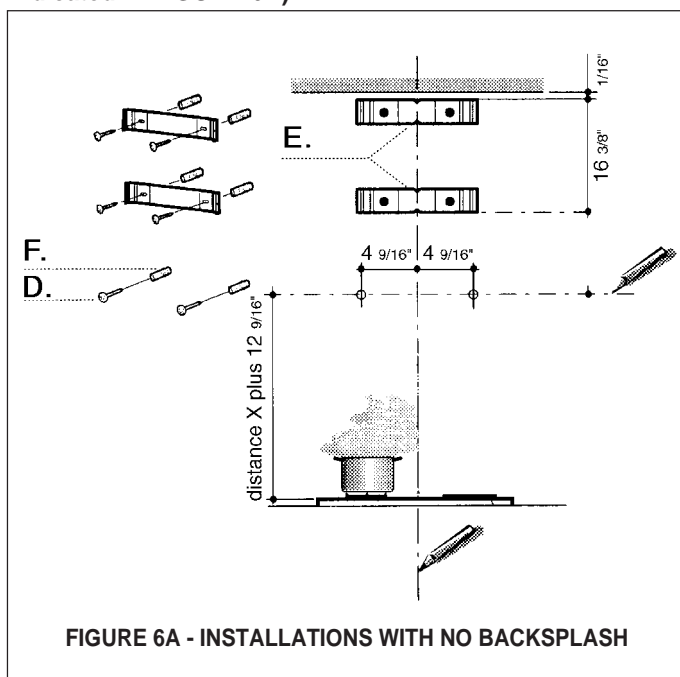

FIGURE 6A - INSTALLATIONS WITH NO BACKSPLASH
3. Based on your ceiling height and/or personal preference, determine the distance you would like between the bottom of the hood and the cooktop (**distance X in FIGURE 4 OR 5**). Draw a horizontal line the height of **distance X plus 12 9/16" (as indicated in FIGURE 6A)**.
4. Place the **UPPER CHIMNEY MOUNTING BRACKET (E)** on the wall as shown 1/16" from the ceiling, aligning the center notch with the vertical center line. Mark the wall at the centers of the holes in the bracket.
5. Place the **LOWER CHIMNEY MOUNTING BRACKET (E)** on the wall as shown at 16 3/8" below the upper bracket, aligning the center notch with the vertical center line. Mark the wall at the centers of the holes in the bracket.
6. Install the **CHIMNEY MOUNTING BRACKETS (E)** on the wall using the **MOUNTING SCREWS (D)** provided.
7. For the most secure installation, the **MOUNTING SCREWS (D)** which mount the **CANOPY SECTION (A in FIGURE 1)** should be installed into wood. Mark the wall along the horizontal line 4 9/16" in from the center line on either side (as indicated in **FIGURE 6A or 6B**) and install the **MOUNTING SCREWS** into the wall leaving about 1/4" gap between the wall and the head of the screw.